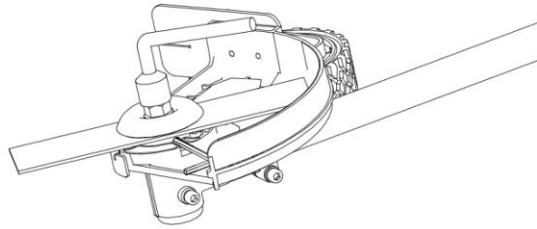

Fig. 30B
4. Insert the hex wrench provided into the hole to act as a stabiliser and loosen the nut with the socket wrench provided.(Fig. 30B)